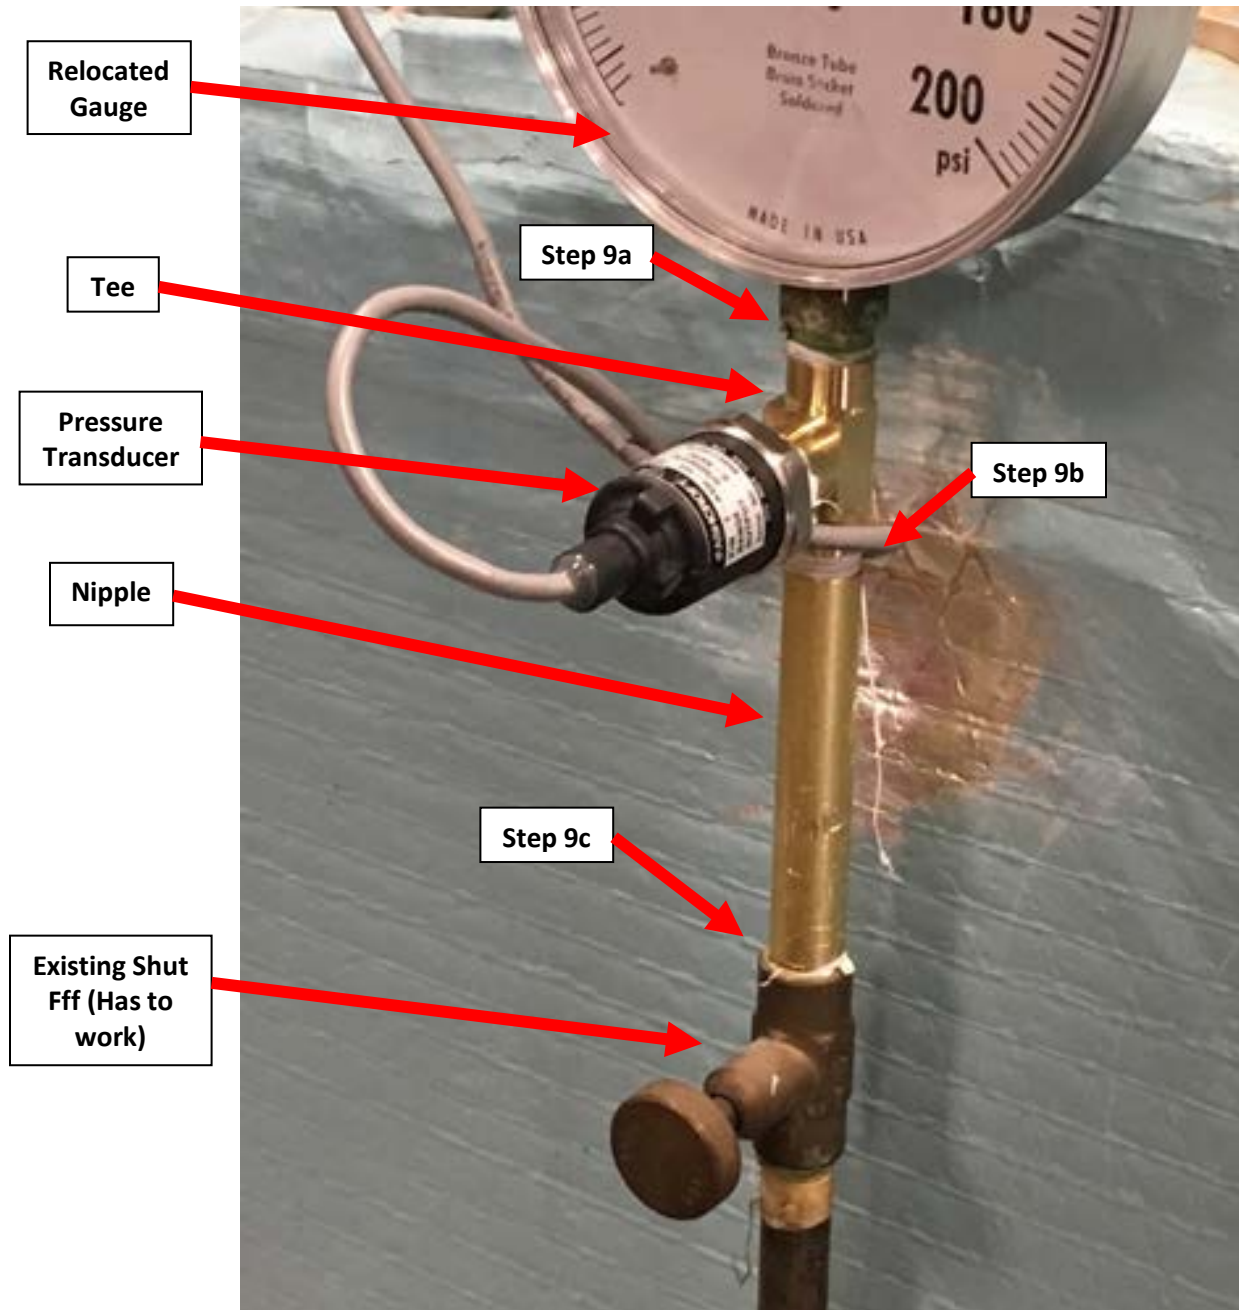

Figure A.9.13: The completed field setup for the Onset HOBO Gauge Pressure Sensor.
For every (1) Onset HOBO Gauge Pressure Sensor, you will also need to bring with you 1 tee fitting, 1 nipple and a roll of Teflon thread tape (or as much as you need to wrap around the threads of the Onset HOBO Gauge Pressure Sensor). Please ask for these components from the CUNY BPL FELL if you do not have them. Also, a pair of pipe wrench pliers are required in order to secure the connections between the gauge, sensor, tee, and nipple. Figure A.9.13 shows all the components in the completed setup.
For the next several steps, please look at Figure A.9.13 after completing each of the subsequent steps to ensure that the tee connections match those of what is shown on that figure. For all the connections in this section which mention the use of Teflon threaded tape, please wrap the necessary threads 3 to 5 times (see Figure A.9.11).
8. Wrap Teflon threaded tape onto the other end of the nipple and screw that other end onto the existing shut off as shown on Figure A.9.13. Do not screw the nipple into the shutoff all the way similar to what was done on step 6. Note that at this point, the Onset HOBO Gauge Pressure Sensor should NOT be installed.